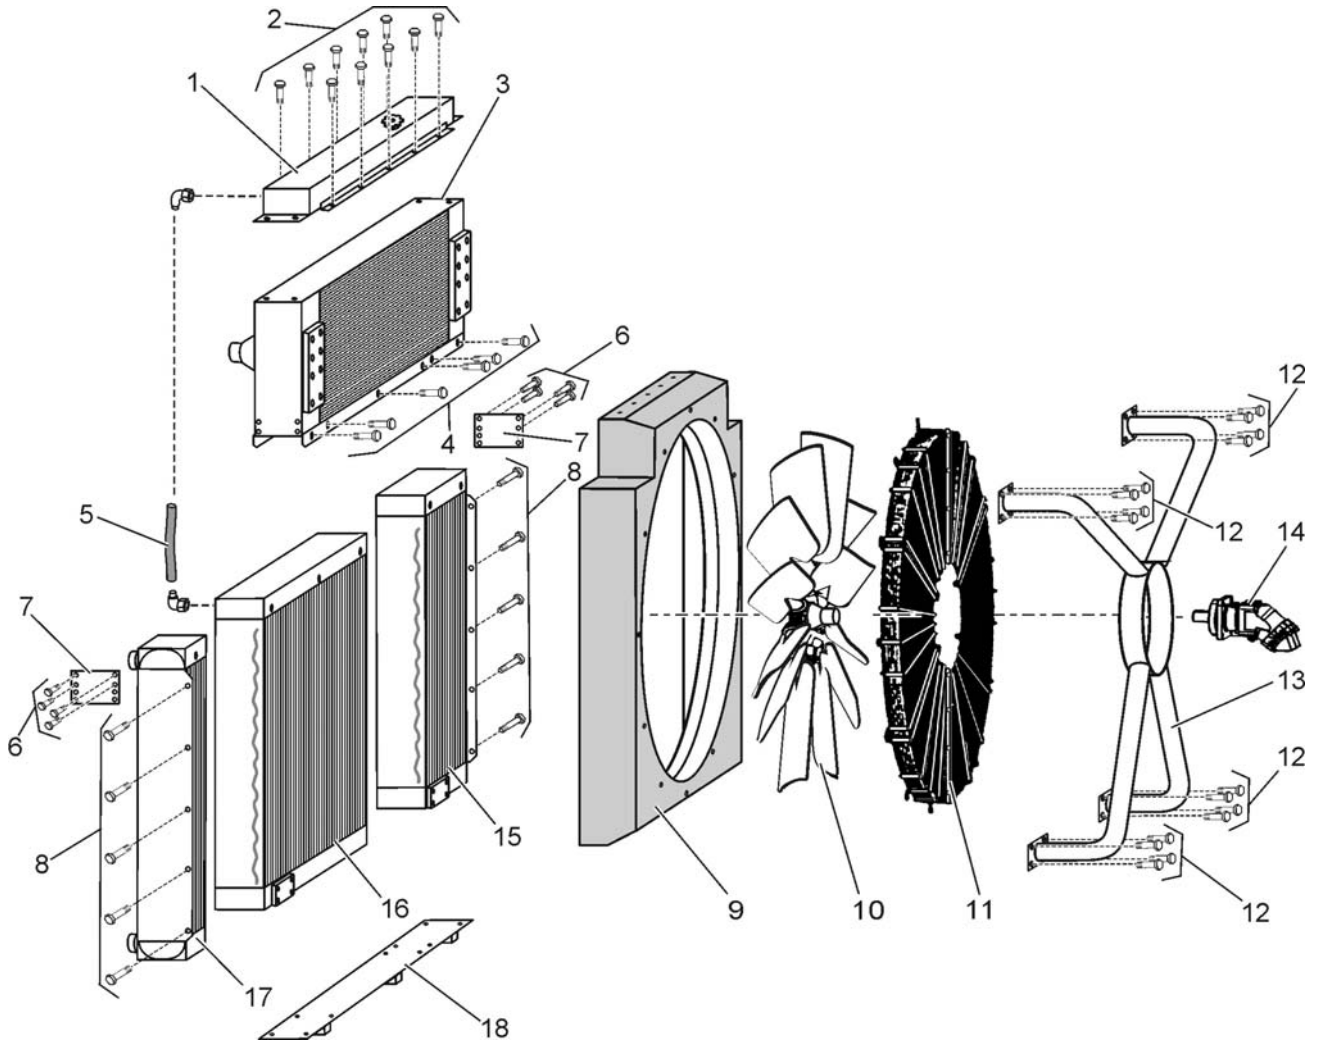

Fig. 6.7. Radiators Assy Exploded View
6. DISASSEMBLY (refer to Fig. 6.7)
8. REASSEMBLE (Refer to Fig. 6.7)